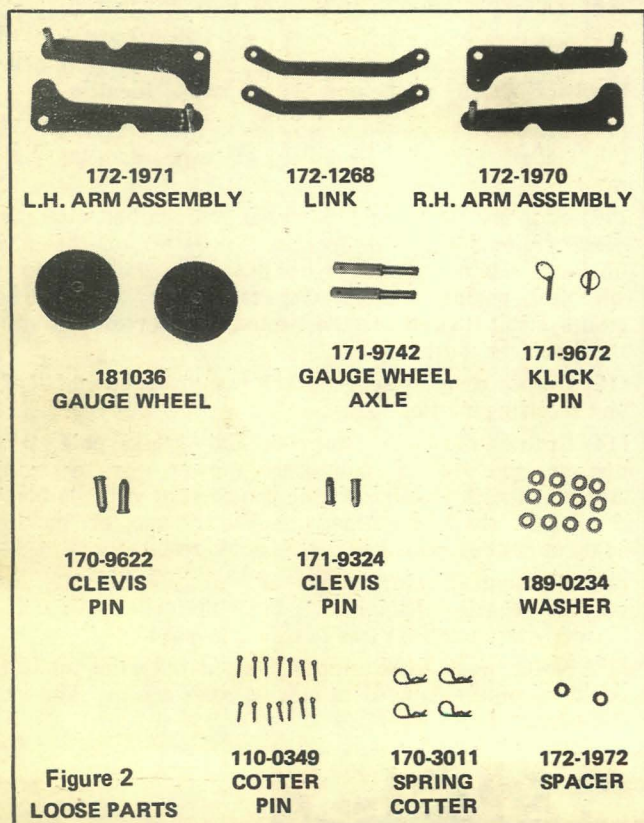
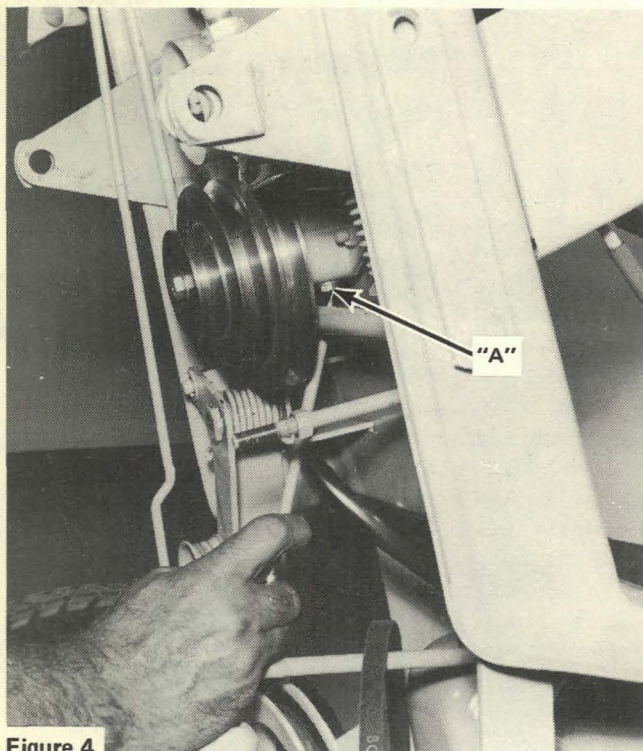

Figure 2
Figure 4
3. Remove belt guide "A" and studs, Figure 2.
4. Remove P.T.O. belt "B", Figure 2.
5. Remove drive belt "C", Figure 2. Refer to Owners Manual, Figures 13 and 14 for removal procedure.
6. Insert nylon bushings #171-7263 into hole "D" of steering support; see Figure 2.
11. Install intermediate pulley shaft into hole "E" of steering support; see Figure 2. Secure with hex head capscrew 1/4-20 x 1 and lockwasher through hole "A", Figure 4.
14. Remove belt guide "F", Figure 2. Install one #172-2988 belt guide onto stud "G" and one in place of spacer "H". Replace belt guide "F". Stud "G" must be readjusted to compensate for new belt guide.